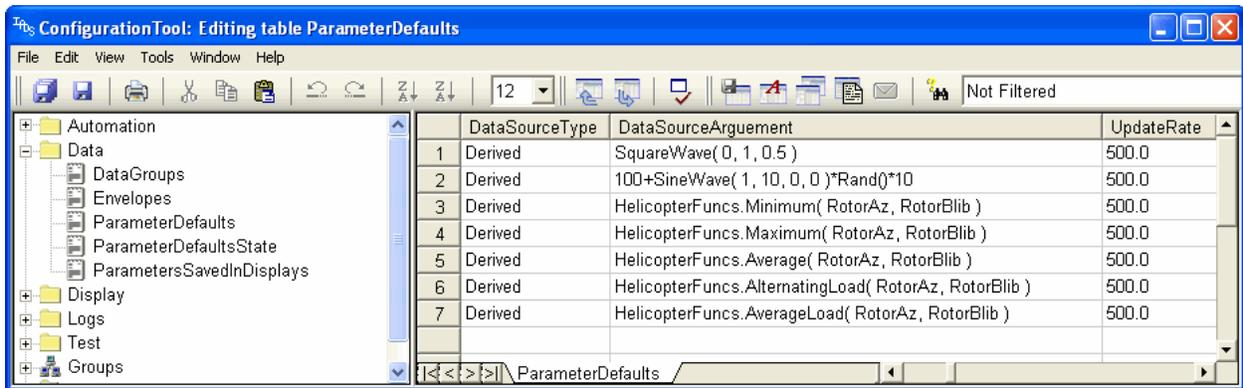

Figure 3-1 Derived Parameters in the IADS Configuration Tool
This section will explain how to create the derived functions within IADS. Figure 3-1 shows all of the functions used to create the IADS derived parameters in the Configuration Tool.
- 6) Enter the desired helicopter function in the *DataSourceArgument* column (see Figure 3-1).